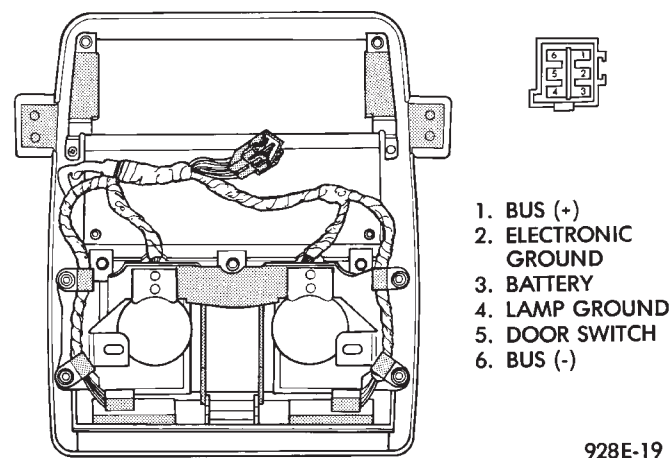

Fig. 6 EVIC Overhead Console Connector
- (1) Remove console, refer to Console Replacement (Fig. 6).